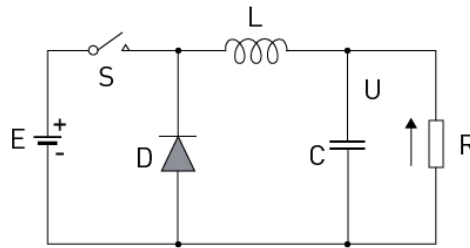

Figure 3: Buck Converter Topology
Figure 3 shows a typical buck converter topology. This circuit has a power supply (E), a switch (S, typically a MOSFET), a diode (D), an LC filter and a load (R). The arrow marks the direction of current flow.